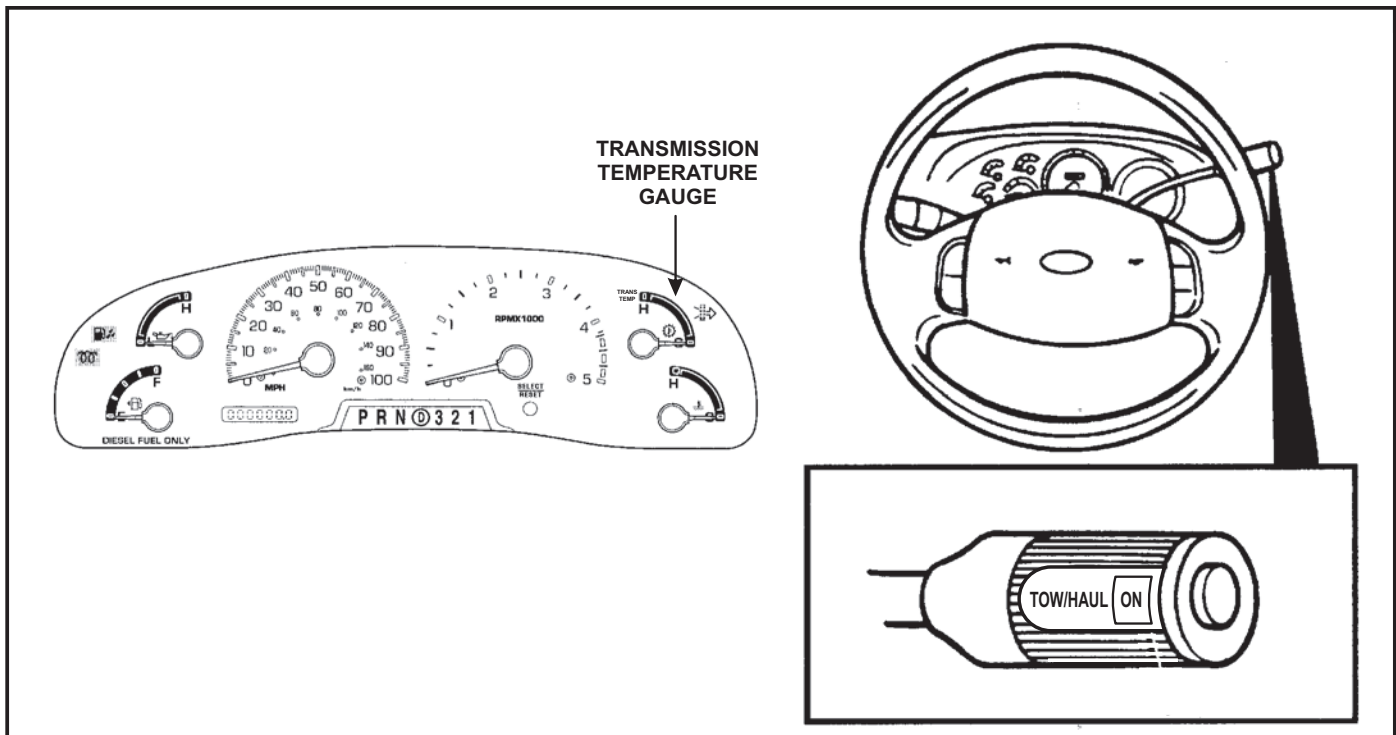

Figure 1
COMPLAINT: A Ford truck equipped with a 5R110W transmission comes to the shop with complaints of erratic shifts, intermittent TFT gauge operation and no Tow/Haul mode function. The MIL may be on and the Tow/Haul indicator lamp may be blinking. (See figure 1) Scan tool data reveals transmission fluid temperature (TFT) readings are fluctuating from normal ranges to -40 degrees (F) coinciding with the erratic display seen on the TFT gauge in the instrument cluster. Code retrieval may indicate fault codes such as P0711-P0712-P0713, or P1711, with no signs of Transmission overheating.